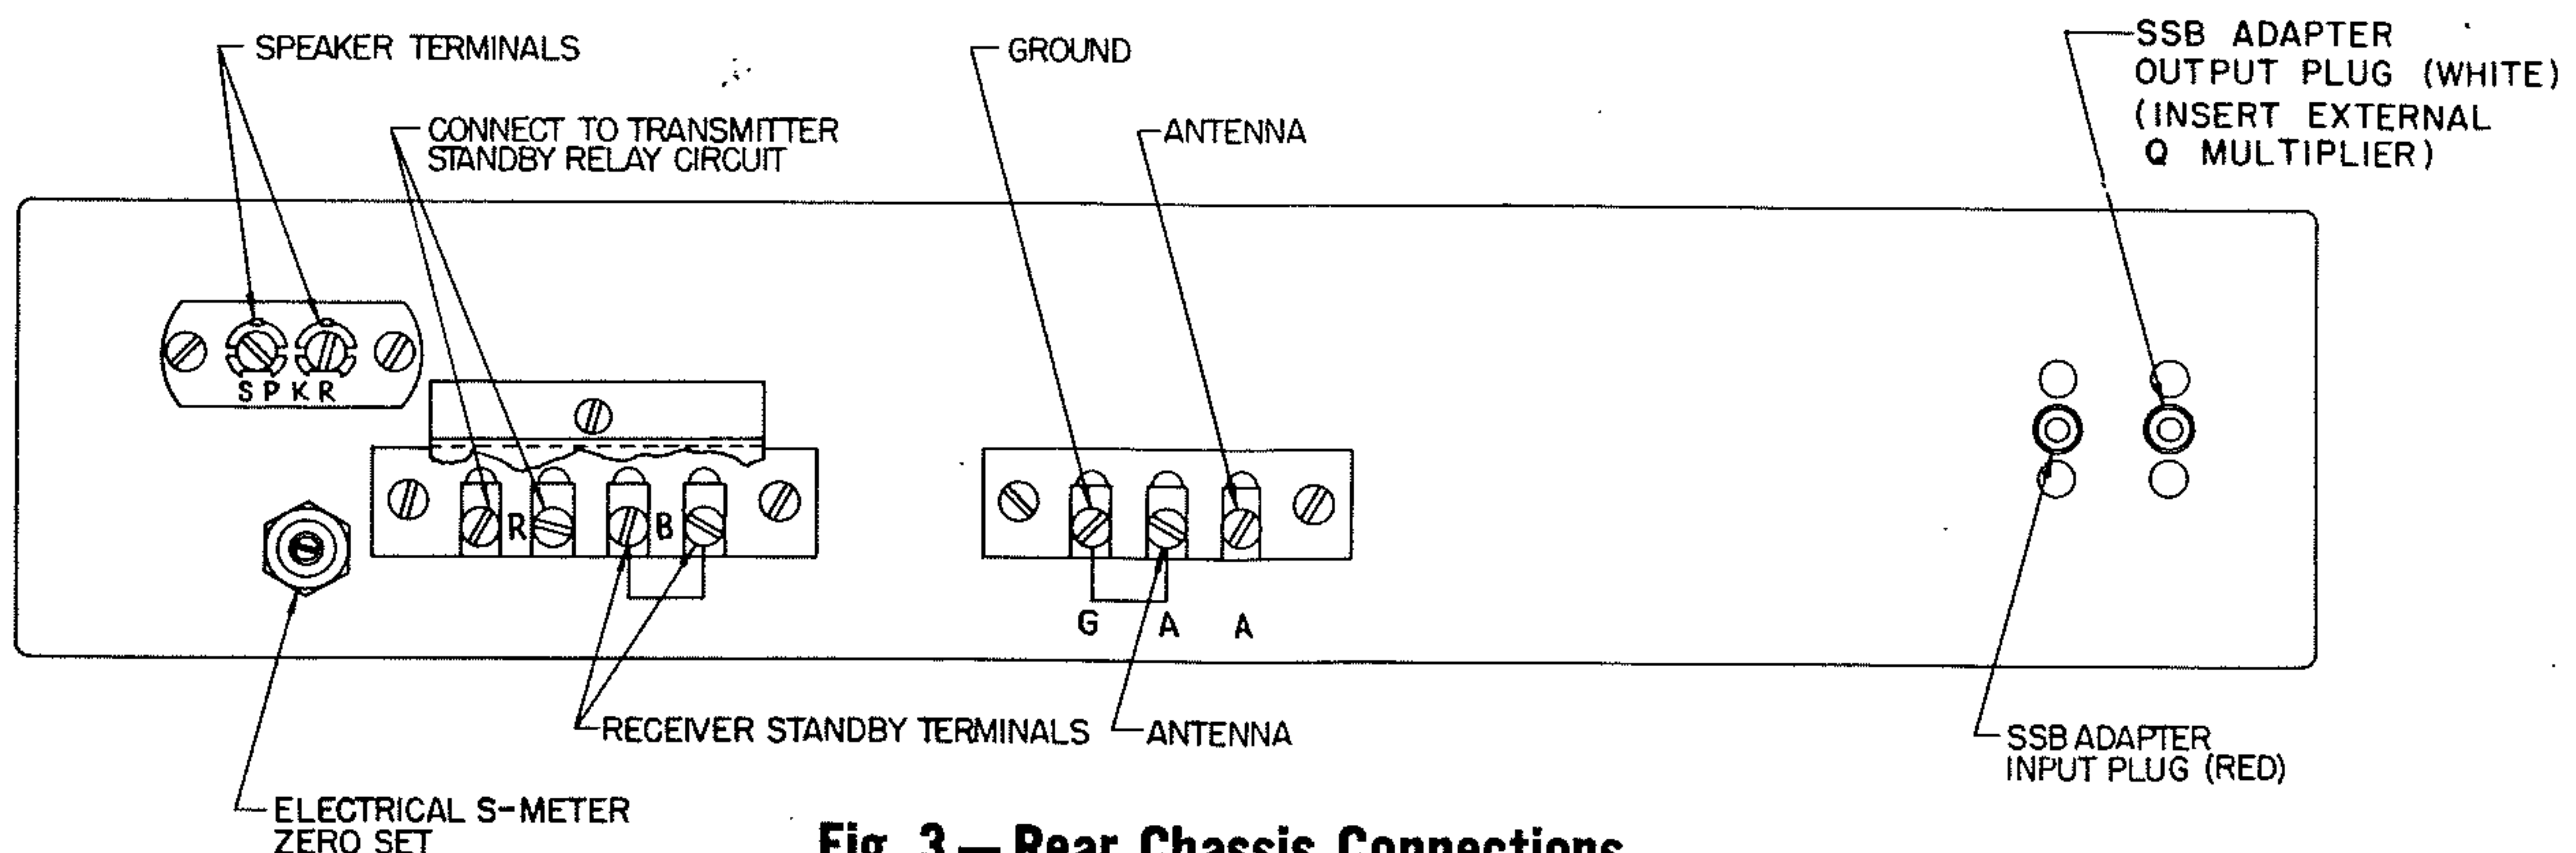

Fig. 3 — Rear Chassis Connections
The lower left connector strip is normally connected with B jumper (See Fig. 3) when it leaves the factory. The receiver will not operate without this circuit being closed either with the jumper as shown or with another closed circuit, such as a pair of closed switch or relay contacts. The receiver is muted by opening this circuit.
Two jacks are provided on the right-hand side of the rear chassis (See Fig. 3) for quick and complete interconnection of the RME 4350A receiver and the RME 4301 single sideband selector. The jacks are color coded as are the plugs on the sideband selector and should be mated for color when interconnecting. The "red" jack is an audio input circuit connection and the "white" jack is the IF input circuit connection to the selector from the receiver. The schematic diagram shows the exact circuitry.
Next connect the RME 4202 speaker or a suitable substitute with 4-ohm voice coil to the speaker terminals (See Fig. 3). The power supply plug may now be plugged into the source (117 V—50/60 cycle AC). Now connect a suitable antenna, (See preceding page) and rotate RF-gain control to full clockwise position. After a minute or so, set stand-by switch to "Rec" and the receiver will come to life as evidenced by atmospheric background noise and/or signal. The S-meter should read around "O" if no signal is being received and if ambient electrical noise is not unusually high. If the meter reads up without signal and in the absence of abnormal noise, disconnect the antenna momentarily, switch band selector to 28 mc band and with controls maintained in the suggested position (especially max. clockwise for RF gain), set the S-meter to "O" by means of the meter balance control (C) on the rear apron of the chassis (See Fig. 3). When this has been done, the antenna may be reconnected and the band selector switch restored to a desired frequency band.